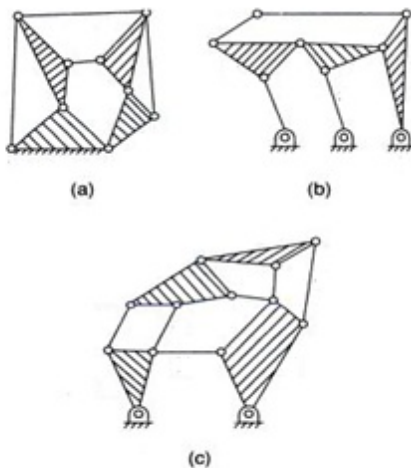

Fig.7B: Kinematic Linkages
- B) For the kinematic linkages shown in the Fig 7B. Calculate the number links, joints and degrees of freedom. (10)